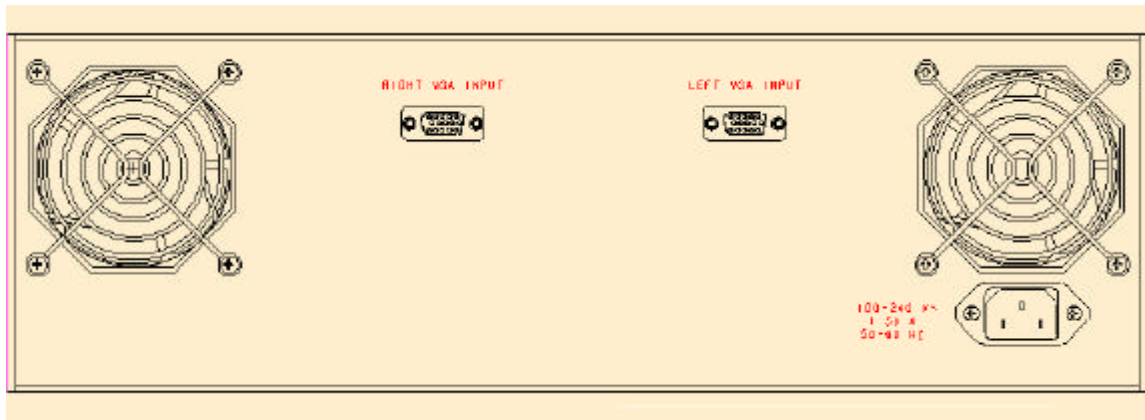

Figure 2-2
The back of the VCU panel has (2) 15-pin standard VGA connectors which must both be connected to an input source. The VCU accepts standard VGA 640x480 60 Hz IBM five line video format as well as 640x480 180 Hz serial (one line) color field sequential video. See section 4, Configuring the Video Hardware, for more information. See figure 2.2.